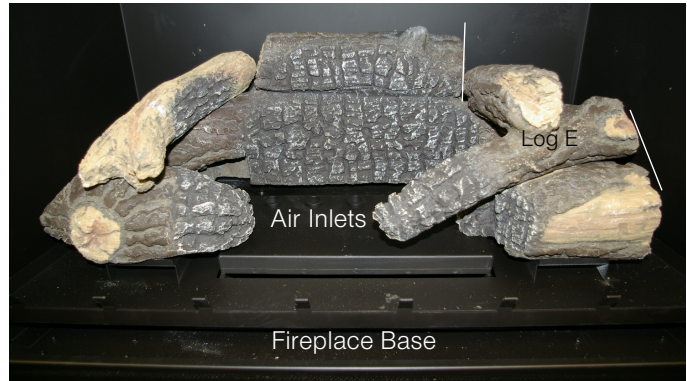

Figure 30e. Top Right Log, (Log E)..
Step 6. Place Front Right log (Log E) as shown in figure 30e.